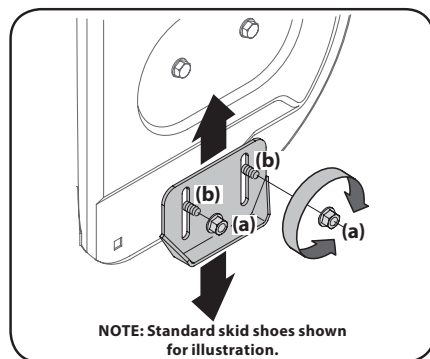

Figure 2-49
1. Loosen four hex nuts (a) (two on each side) and carriage bolts (b). Move skid shoes to desired position. See Figure 2-49.
NOTE: The skid shoes on your unit may look slightly different (and have different hardware) than ones shown in Figure 2-49.